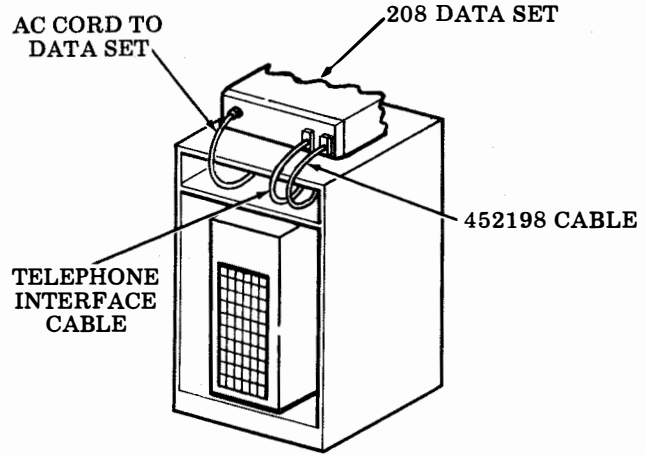

Fig. 5.
3.07 Place the data set right side up on the top of the cabinet with the connectors facing the front of the cabinet. Connect the telephone interface cable and the ac power cable (twist lock) to the data set. Connect 452198 cable such that the cable at the connector end faces downward. See Fig. 5.